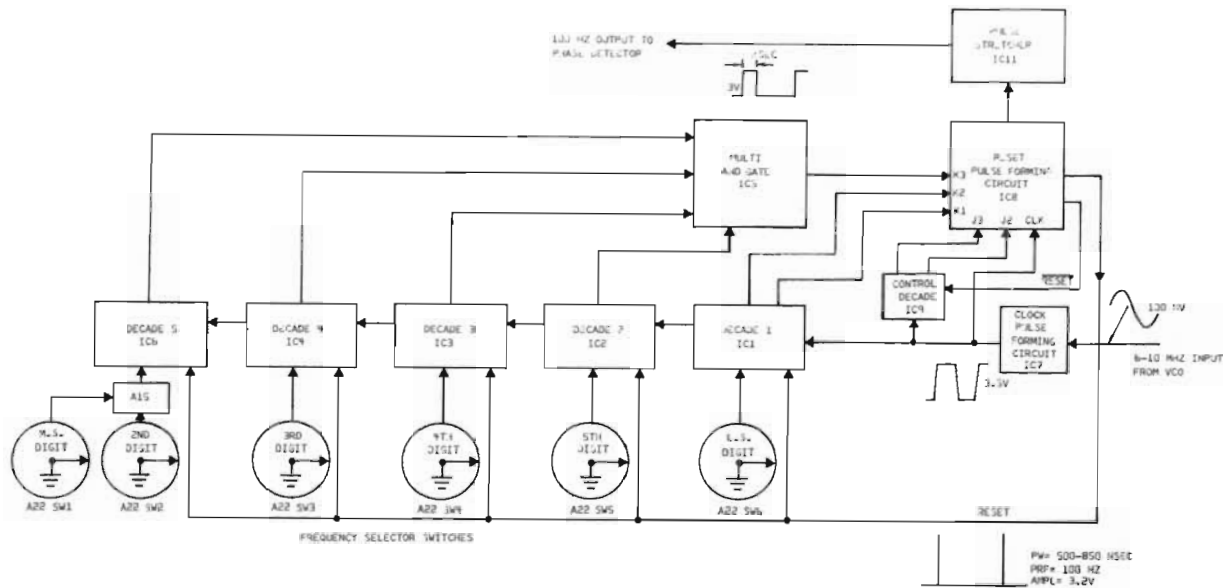

Figure 4-2. Divid-by-N Counter, Simplified Block Diagram
4.43 As has been stated, the VCO must produce a signal with a frequency of 6.3456 MHz for a dialed-in frequency of 123.456 MHz. The VCO sine wave output is connected to the clock pulse-forming network, IC7 (Figures 4-2 and 6-13). In the example, the $\div N$ Counter must count 6,345,600 pulses per second and produce a signal of 100 pulses per second (100 Hz). This means that for every 63,456 input (clock) pulses, the counter must produce one output pulse. $\div N$, in this case, is 63,456.